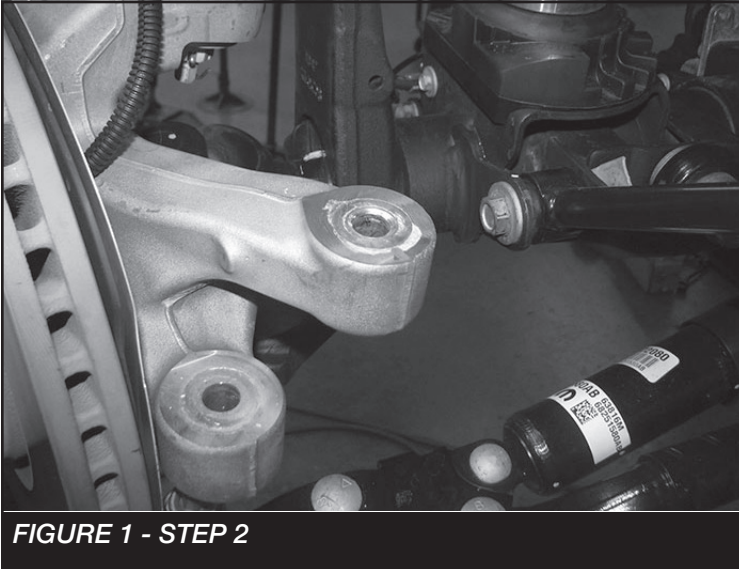

FIGURE 1 - STEP 2
2. Completely remove the factory drag link from the vehicle. Then disconnect the center link from the passenger side knuckle only. **SEE FIGURE 1**